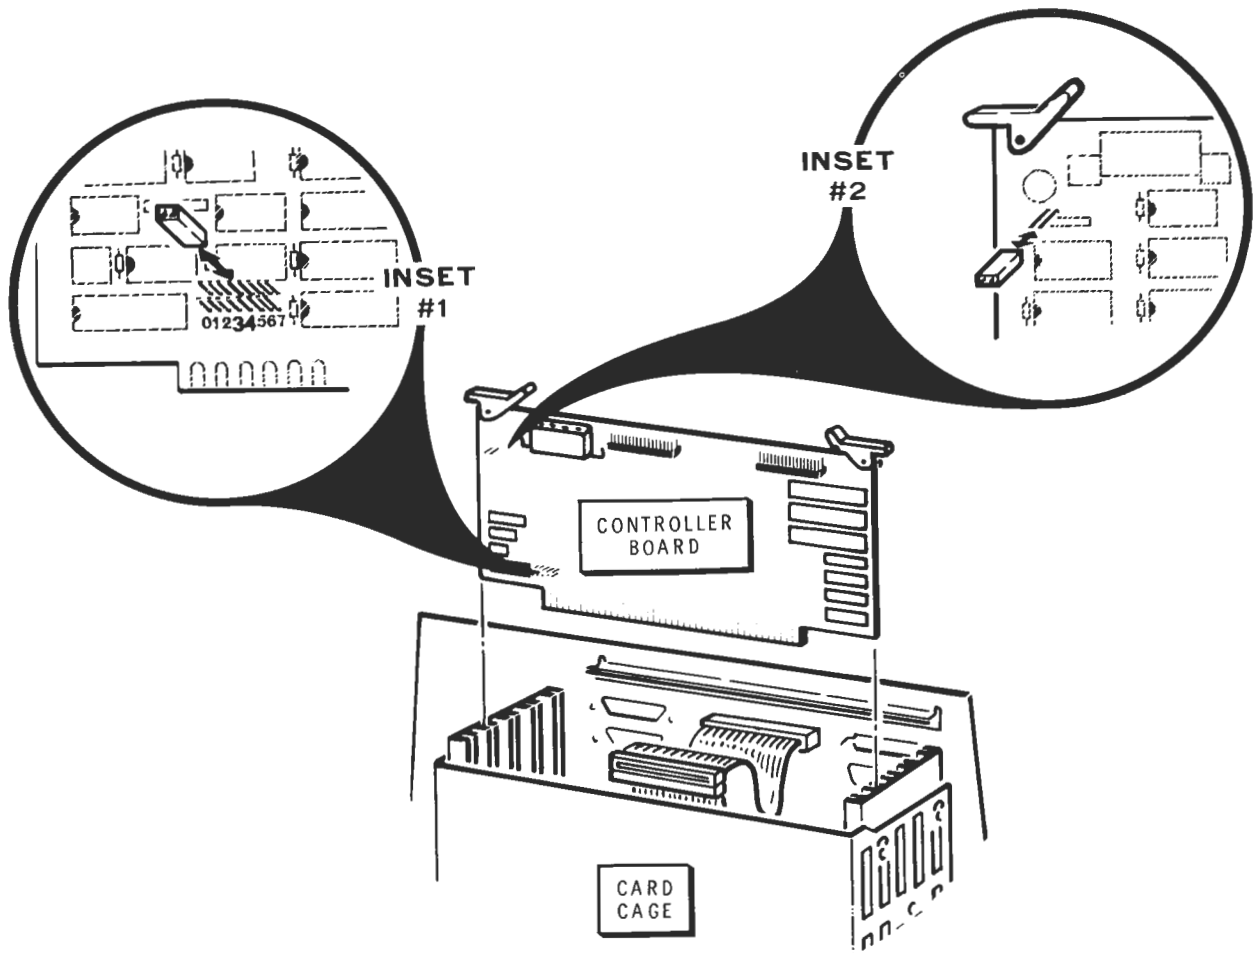

Figure 4-2
4. Locate the Z-217 Winchester Disk Controller Board in the "Card Cage" illustrated in Figure 4-2.
5. Gently slide the Z-217 controller board upward until the area shown in Inset #1 of Figure 4-2 is above the top of the card cage. Do not remove the Z-217 board completely from the card cage. As you slide the board upward, be certain that some of the board is still anchored between the card cage's vertical tracks.
6. Locate the jumper covering the pins shown in Inset #1 of Figure 4-2. Remove this jumper by carefully sliding it away from the board. Be careful not to bend the pins.
7. Locate the two pins shown in Inset #2 of Figure 4-2. Carefully slide the jumper over these pins. Be careful not to bend the pins.